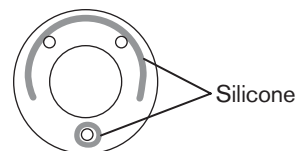

Figure 2
3. Apply a half-circle of silicone to the flanges above the two top screws and around the lower hole (Figure 2).